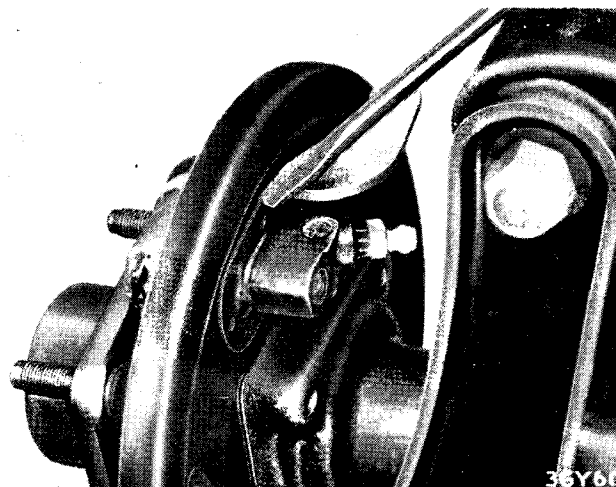
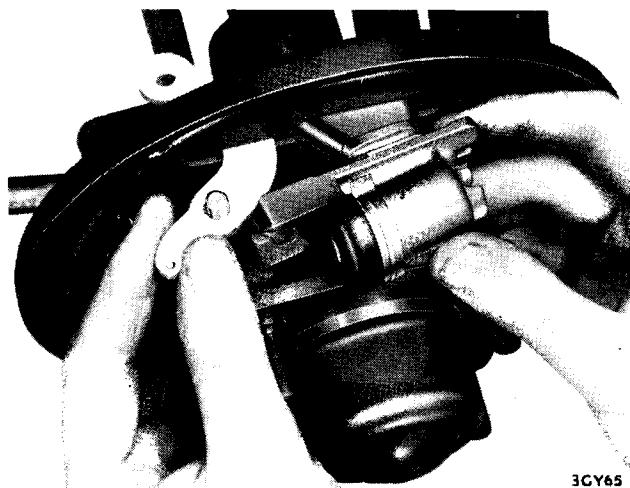

Fig. 19. Wheel cylinder retainer plate removal
Fig. 20. Wheel cylinder removal
5. Remove the dust excluder, retaining plate and spring clip (Fig. 19) and withdraw the cylinder from the backplate (Fig. 20).